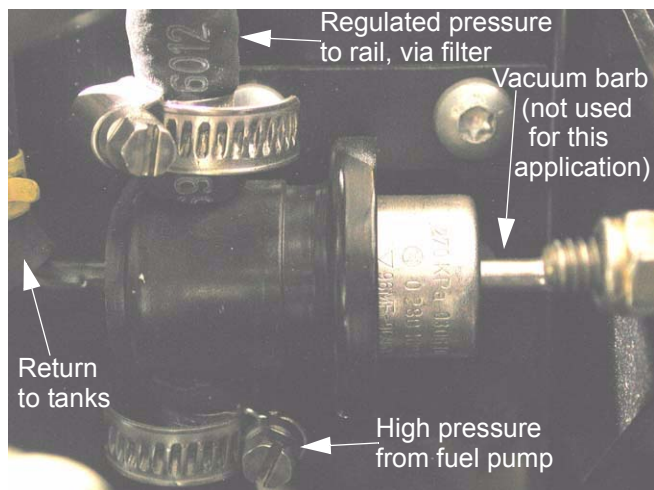

Figure 10.8
- 10.8. There are two lines exiting the pressure regulator. One is a regulated pressure line that feeds the fuel rail via the fuel filter. The second line is a return line. The third line is a high pressure feed from the fuel pump. See Figure 10.8.